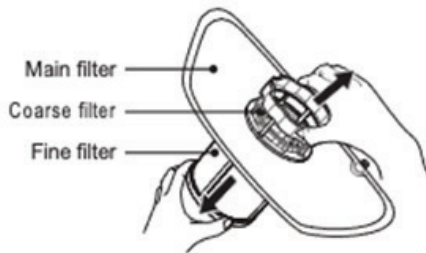

Figure 25- The filter assembly once removed from the dishwasher cabinet base.
**Step 2** With the filter assembly removed from the dishwasher, the fine filter can be pulled off the bottom of the filter assembly (refer to figure 25 below). This fine filter is covered by a fine mesh. Rinse this under running water from your tap and wipe any residual food residue off the filter.